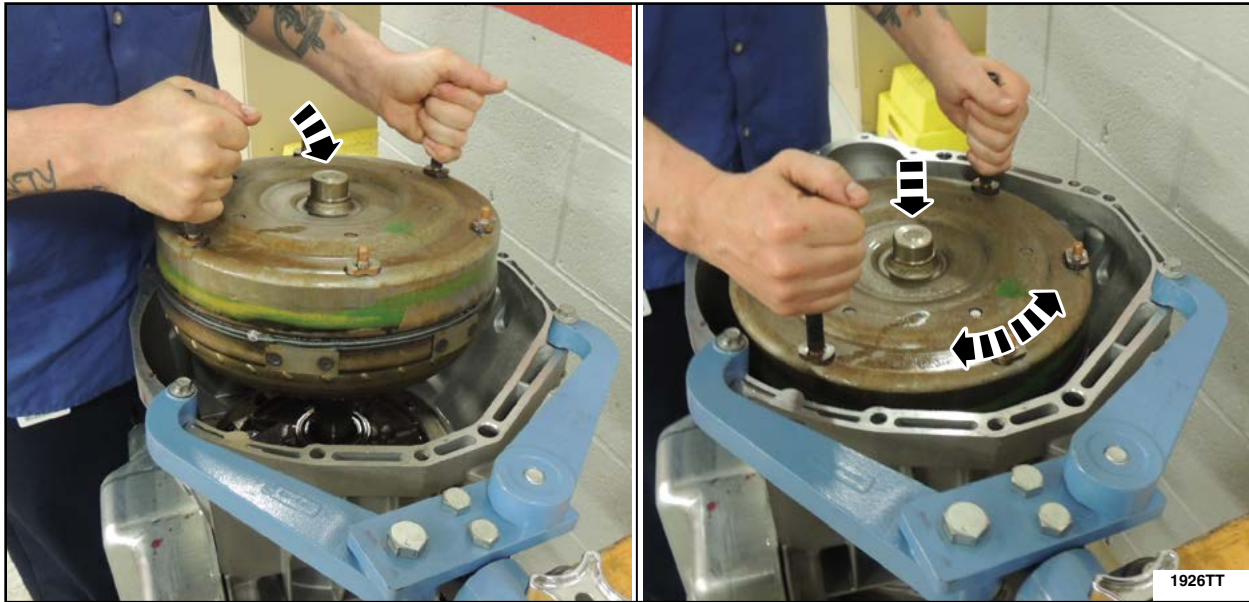

FIGURE 51
49. Using the Torque Converter Handles (307-091), install the torque converter. Push and rotate the converter onto the front pump assembly until it bottoms out. See Figure 51.